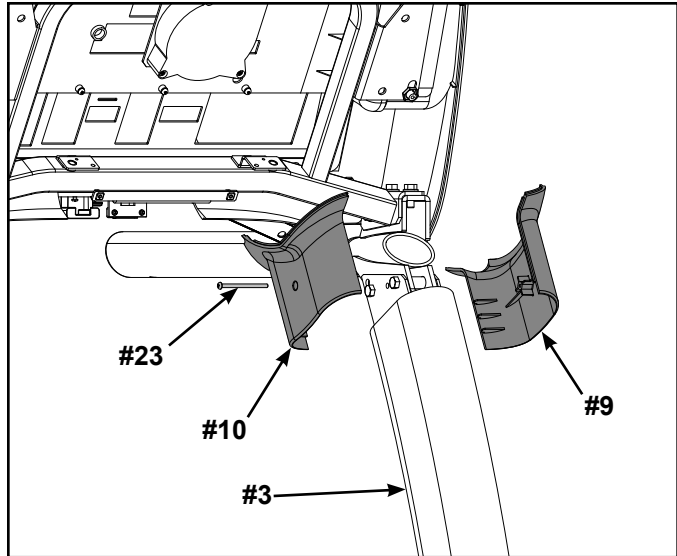

Figure 7
- A. Locate the outer left upright cover (#9), inner left upright cover (#10) and one screw 8/16 x 2.5" (#23). See Figure 7.
- B. Place the two upright covers in place over the left upright (#3). See Figure 7.
- C. Insert the screw 8/16 x 2.5" (#23) into the inner left upright cover (#10) and secure using a Phillips screwdriver. See Figure 7.